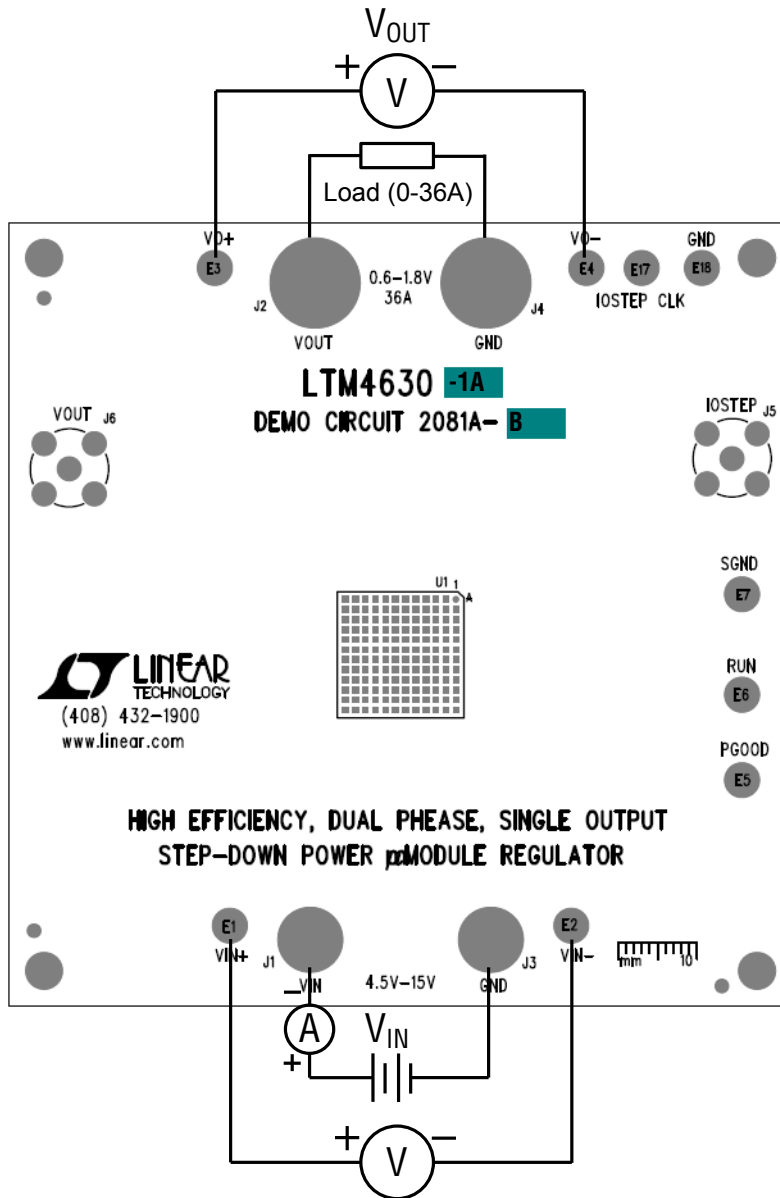

Figure 1. Test Setup of DC2081A-B
Demonstration circuit DC2081A-B is easy to set up to evaluate the performance of the LTM4630-1. Please refer to Figure 1 for proper measurement setup and follow the procedure below:
1. With power off, connect the input power supply, load and meters as shown in Figure 1. Preset the load to 0A and  $V_{IN}$  supply to 12V.